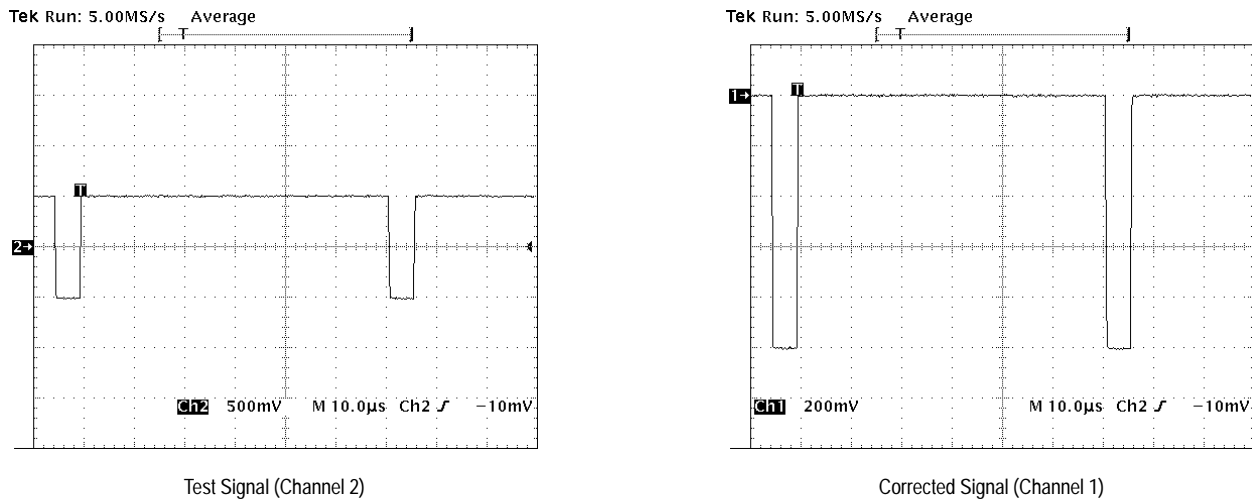

Figure 10: Gain Check
7. Verify that the pulse amplitude is between 975 mV_{p-p} and 1.025 V_{p-p} (see Figure 10).